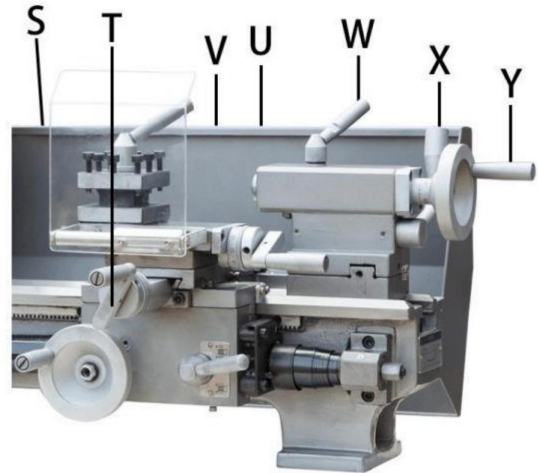

Figure 10-6: Machine controls
Apron travel (S, Fig 10-6), cross travel (T) and top slide travel (U) can be operated for longitudinal and cross feeding.
Move the half-nut lever (V, Fig 10-6) down, to engage the automatic longitudinal feed. Move it up to disengage